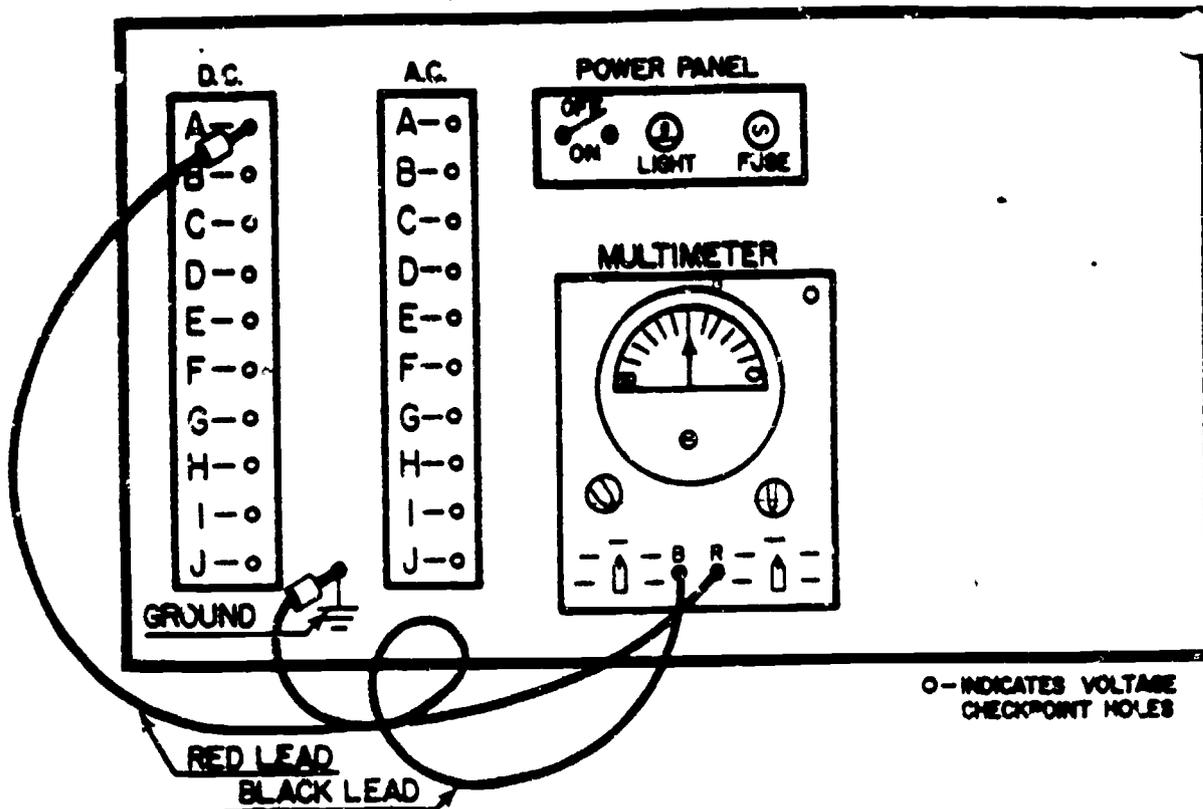

Figure 1.
Step 1. Shown in figure 1 is an example of how your meter leads should be connected to the circuits being checked. Note that the black meter lead is connected to the point marked 1. The red lead is connected at each point being checked. In the figure also note that the red lead is connected to Point "A" of the DC voltage panel. To take further readings, simply move the red lead to the points to be checked (a-d). Go NO FURTHER than D.